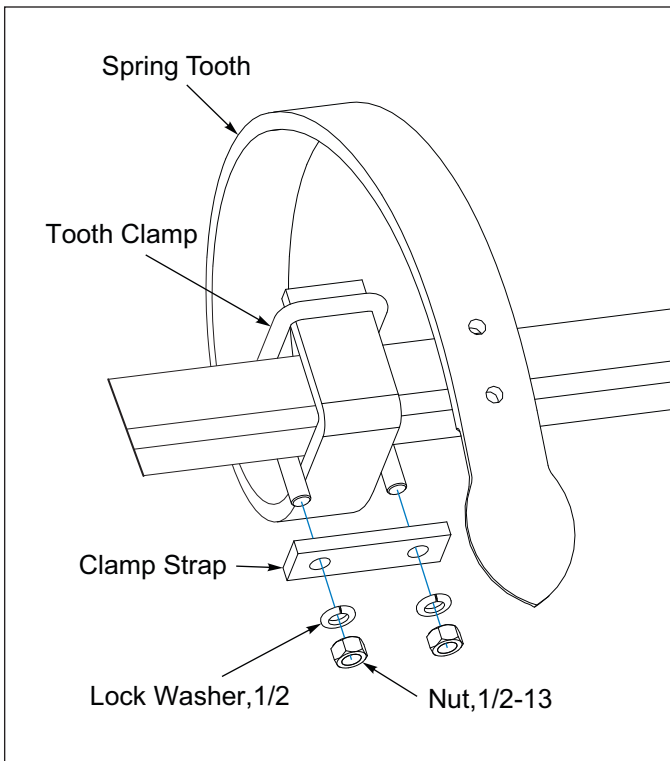

Figure 2-24: C-Tooth Installation
2. Attach the Control Arms to the Front Tubes using 5/8-11 U-Bolts, Lock Washers and Nuts. Repeat for the Rear Tubes. **See Figure 2-24**.